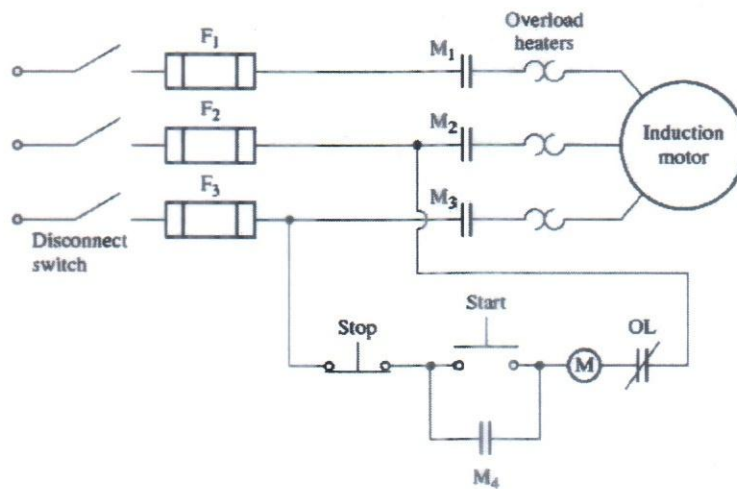

Figure 3.a
b) For the single phase induction motor shown in Figure 3.b, if you provide a single phase ac supply, state the motor's rotation status. Briefly explain using double revolving field theory. 12